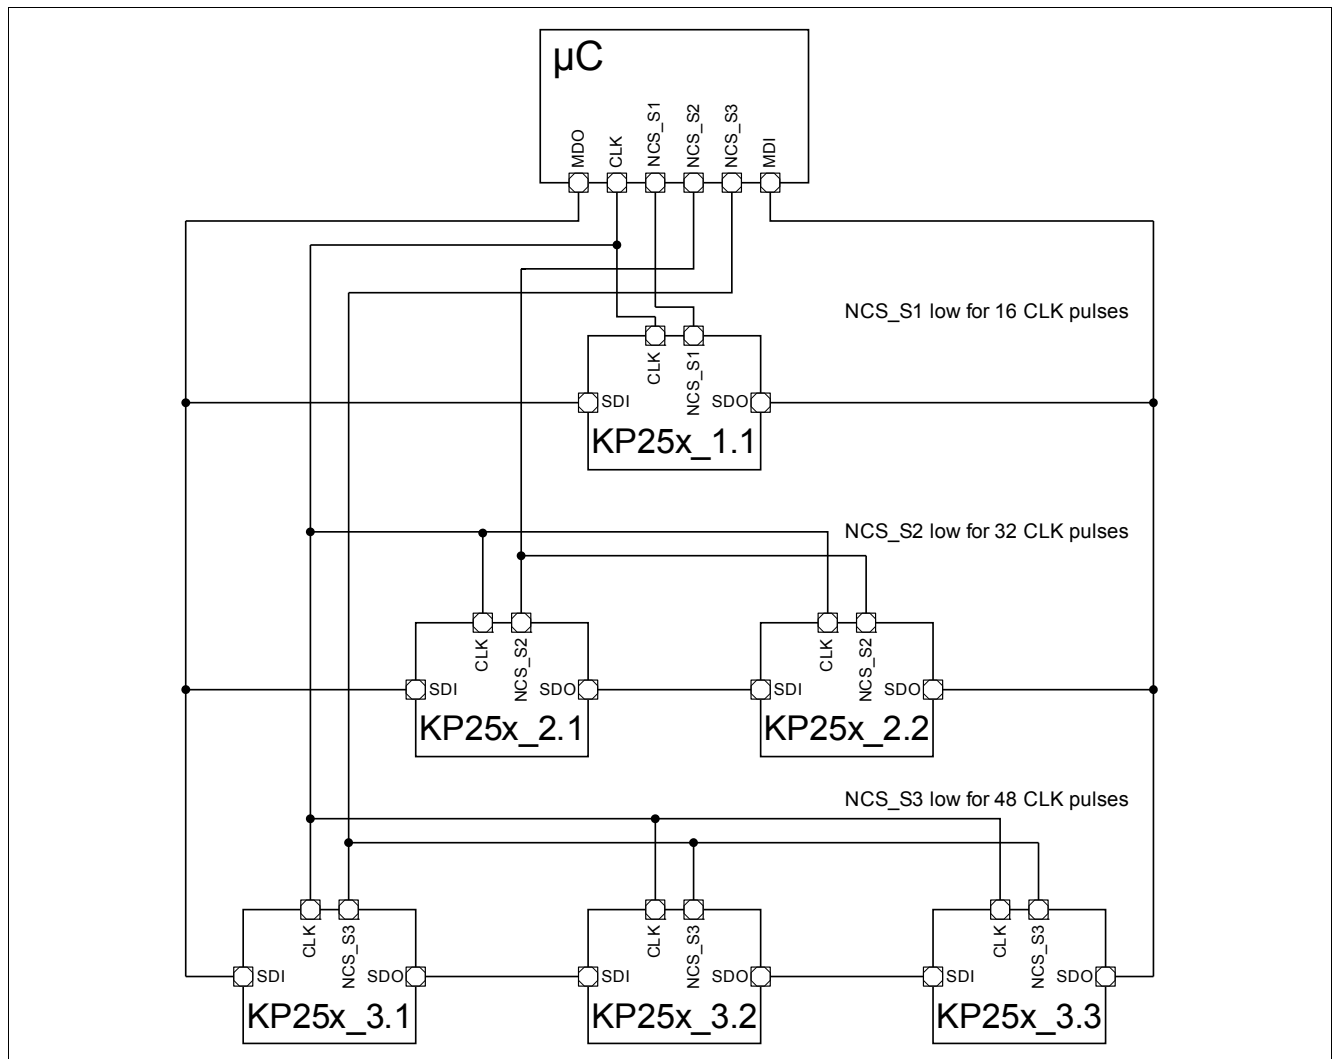

**Figure 19** Example for daisy chain operation
**Figure 19** shows an example of a combination of daisy chain mode and parallel operation.
The responding NCS line for the addressed sensor group must be low during the complete communication. During this time the provided number of clock pulses must be the multiplication result of 16 times the number of sensors in a daisy chain (e.g. 32 clock pulses for the KP25x\_2.x branch in Figure 19)